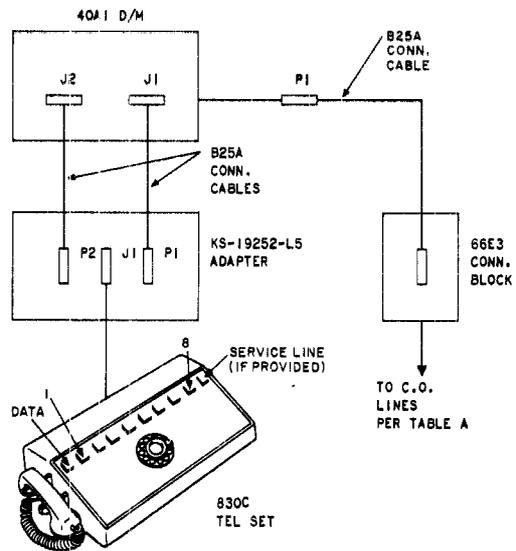

Fig. 7—202S Data Station Arrangement for 6 to 8 Data Sets With 830C Tel Set
3.13 **830C or 2830C Telephone Set:** If an 830C or 2830C tel set is used, insert plug number 2 of the tel set into the J1 connector of the KS-19252-L5 adapter of the first 40A1 data mounting. Insert plug number 1 into the J1 connector of the KS-19252-L5 adapter of the second 40A1 data mounting. Plug P1 and P2 of the adapter into J1 and J2 of the 40A1 data mounting, respectively, using B25A cables (Fig. 7).